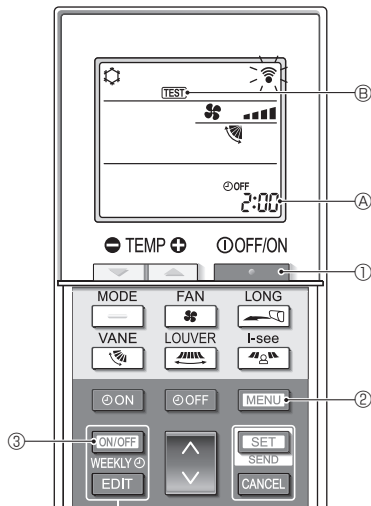

Fig. 7-5
■ Test run (Fig. 7-5)
- Press the **ON/OFF** button ① to stop the air conditioner.
- If the weekly timer is enabled (**WEEKLY** is on), press the **ON/OFF WEEKLY** button ③ to disable it (**WEEKLY** is off).
- Press the **MENU** button ② for 5 seconds.
- Press the **MENU** button ②.
- TEST** ⑥ comes on and the unit enters the test run mode.